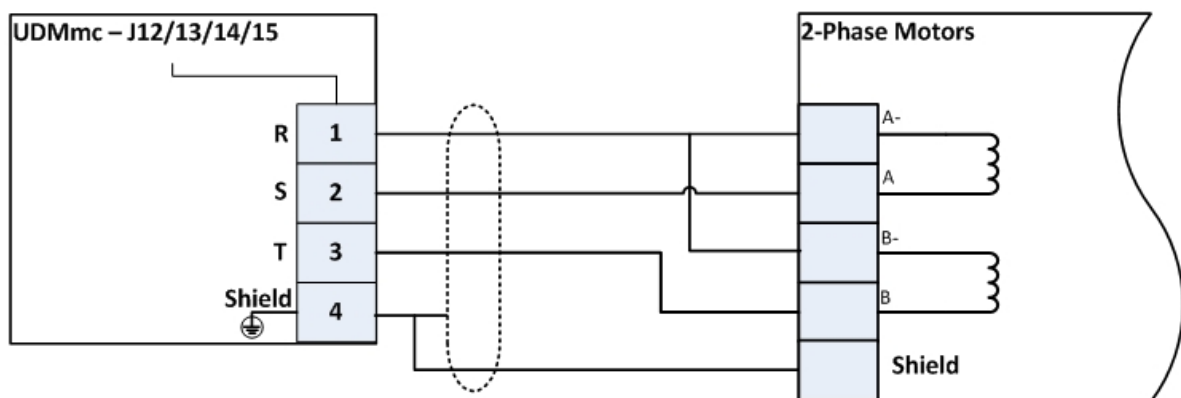

Figure 4-12. 2-Phase Motors (AC synchronous, Step Motor) Connections
- > 2-phase (AC synchronous, step motor), see Figure 4-12.